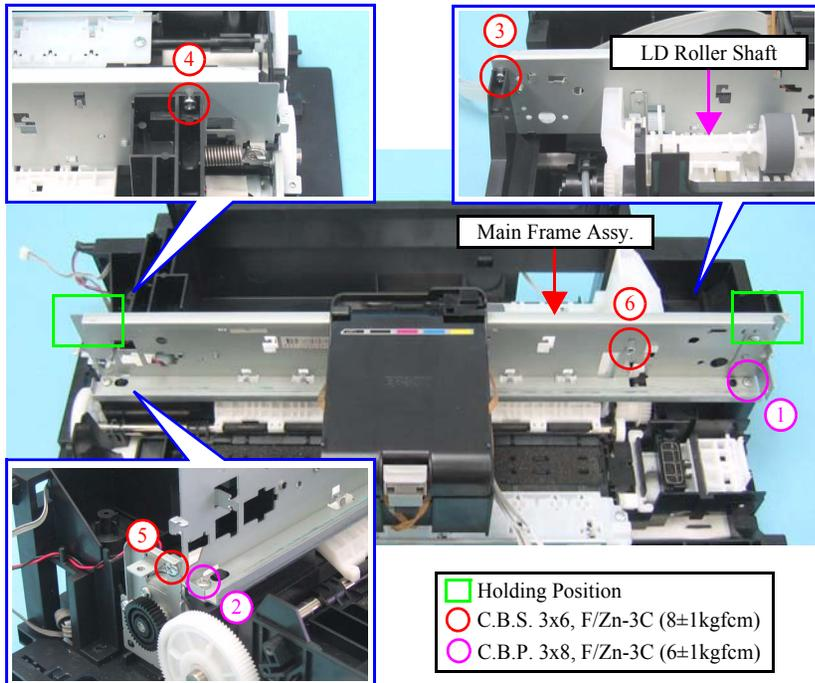

Figure 4-60. Removing Main Frame Assy.
- Tighten the screws in the order given in Figure 4-60.